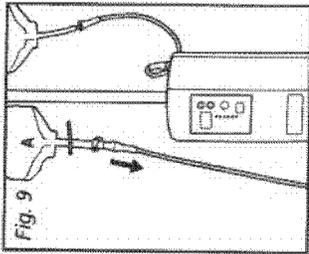

Fig. 9
1. Open clamp on Bag A. Disinfectant will start to drain from Bag A through the unit and into Bag B. (Fig. 9)